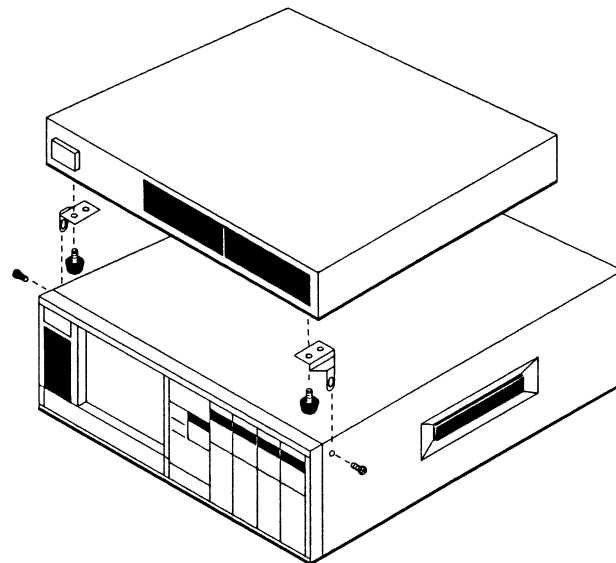

Figure 3 - Mount the hold down brackets to the Pro Disk and then secure the assembly to the scope.
4. Attach the Hold Down Brackets to the Pro Disk using the bottom feet and securing screws removed in step 1 (Figure 3).
5. Mount the Pro Disk to the scope by securing the Hold Down Brackets to the threaded inserts at the top front of the scope's outer cover (Figure 3). Use the #6-32x3/8 screws provided.